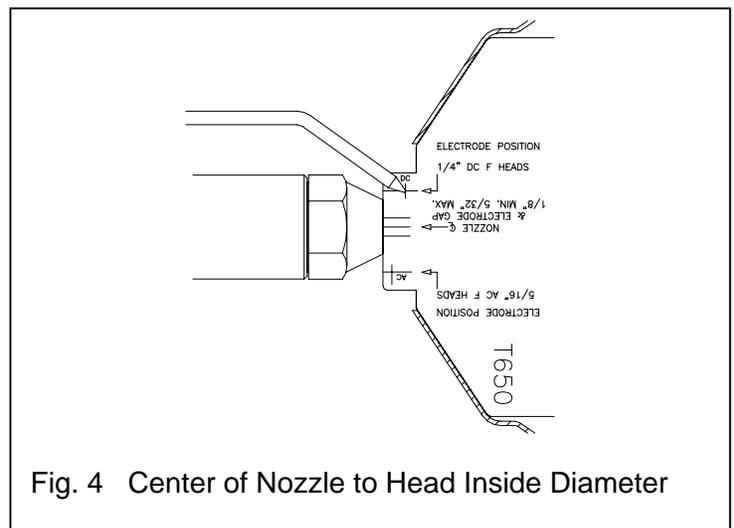

Fig. 4 Center of Nozzle to Head Inside Diameter
4. To check that the nozzle is approximately centered with the head inside diameter, place the gauge in the head and note the gauge center mark location with respect to the nozzle center. Rotate the gauge and check several positions (see **Fig. 4**).